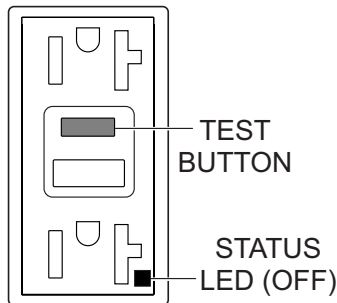

Figure 66. GFCI Receptacle (OFF)
4. Press the **TEST** button (Figure 66) on the GFCI receptacle and verify that the status LED turns **OFF**.